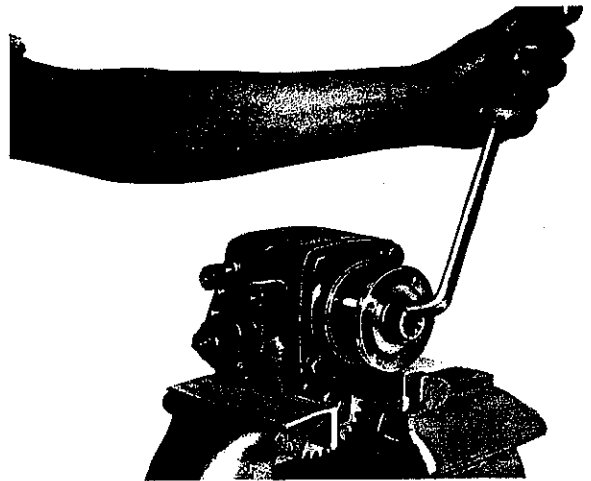

Fig. 19
Clamp external drive with double gear between soft jaws into a vise and engage slide gear (4). Unscrew hex. screw (31) (Fig. 19) and pull output flange (27) from shaft. Push washer (29) out of output flange.